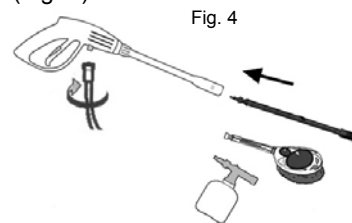

Fig. 4
3. Once the high pressure nose is connected to the trigger gun, you can attach the lance, rotary brush or soap dispenser accessories. To attach either the lance or the brush to the trigger gun, hold the trigger gun in your left hand insert the desired accessory and push it in all the way into the connector on the trigger gun and turn it clockwise 60° until it locks in place. To remove the attachment, push down on the attachment and turn counter-clockwise 60° and then pull out. Make sure that the attachments are securely locked in place before use. (Fig. 4)